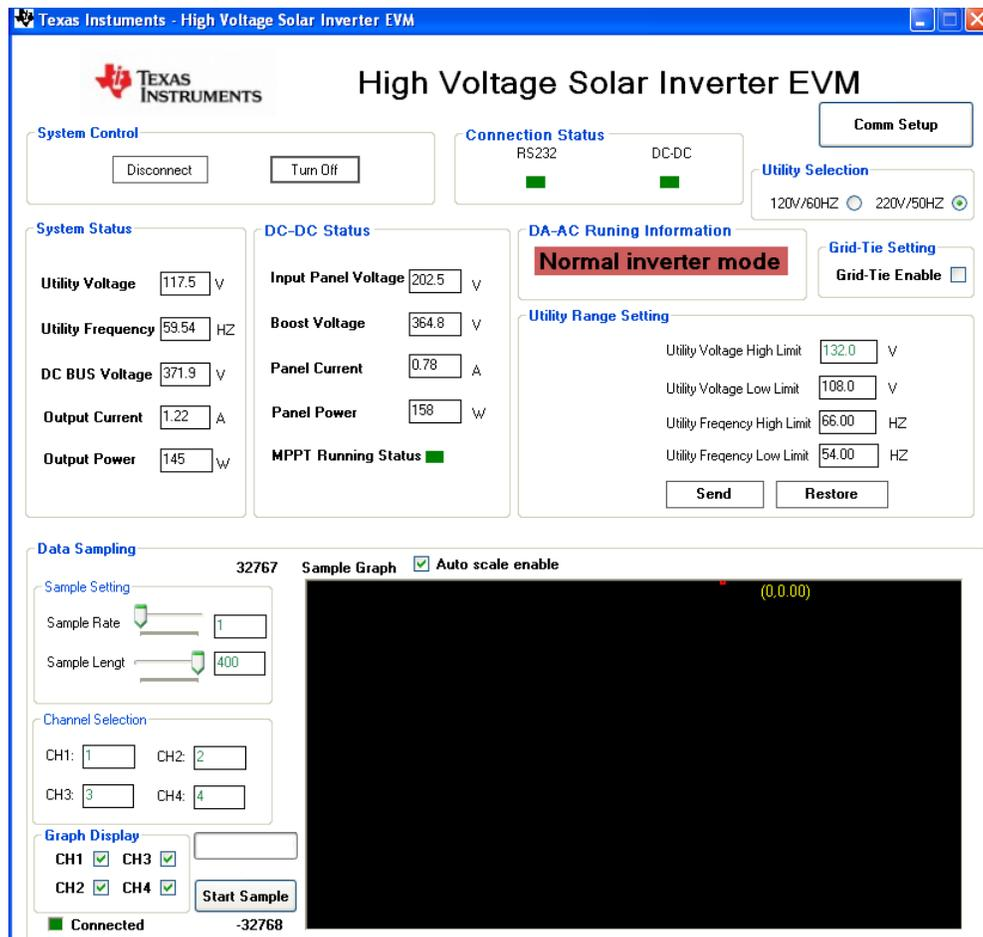

Figure 7. HV Solar Inverter GUI Snapshot for Off-Grid Operation
7. On the GUI, verify some of the system parameters. For example, the input panel voltage should be about 220 V, the panel power should be about 165 W, and the DC BUS voltage should be about 380 V. The GUI snapshot on Figure 7 shows these parameters under this condition.